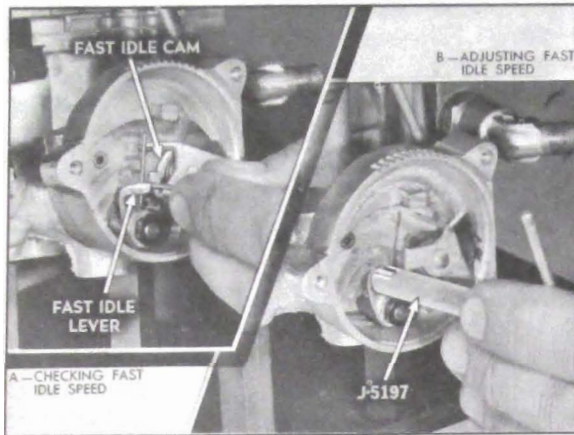

Figure 3-62—Fast Idle Speed Adjustment
3. With choke valve closed and throttle lever held against stop screw, measure clearance between fast idle lever and high step of fast idle cam using a No. 55 drill. See figure 3-62, (View A).
4. If clearance is wrong, bend fast idle lever as required to correct using Tool J-5197. See figure 3-62, (View B). *Fast idle lever must be parallel to carburetor mounting surface after bending.*